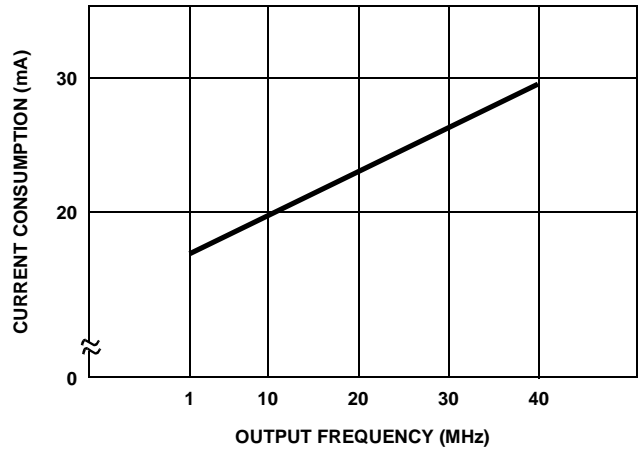

FIGURE 10. OUTPUT FREQUENCY vs CURRENT CONSUMPTION
- Standard Measurement Conditions and Description: VDD = 5.0V, VREF = 2.0V, R = 200Ω, 16R - 3.3kΩ, TA = 25°C. The temperature characteristics of external input data in Figure 10 = all "0" and "1" of rectangular wave; clock frequency = 80MHz.